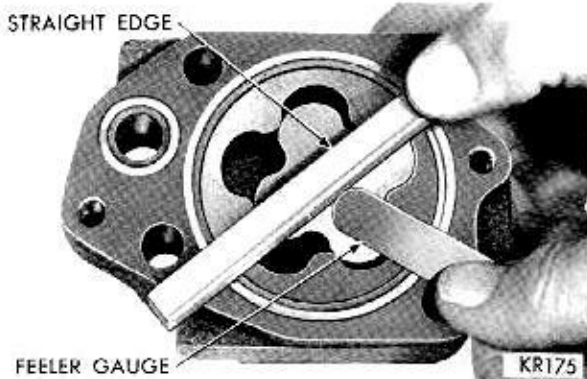

Fig. 56—Measuring Clearance Over Rotors
(6) Install inner rotor into pump body and place a straightedge across the face between bolt holes (Fig. 56). If a feeler gauge of more than .004 inch can be inserted between the rotors and straightedge, replace pump body.